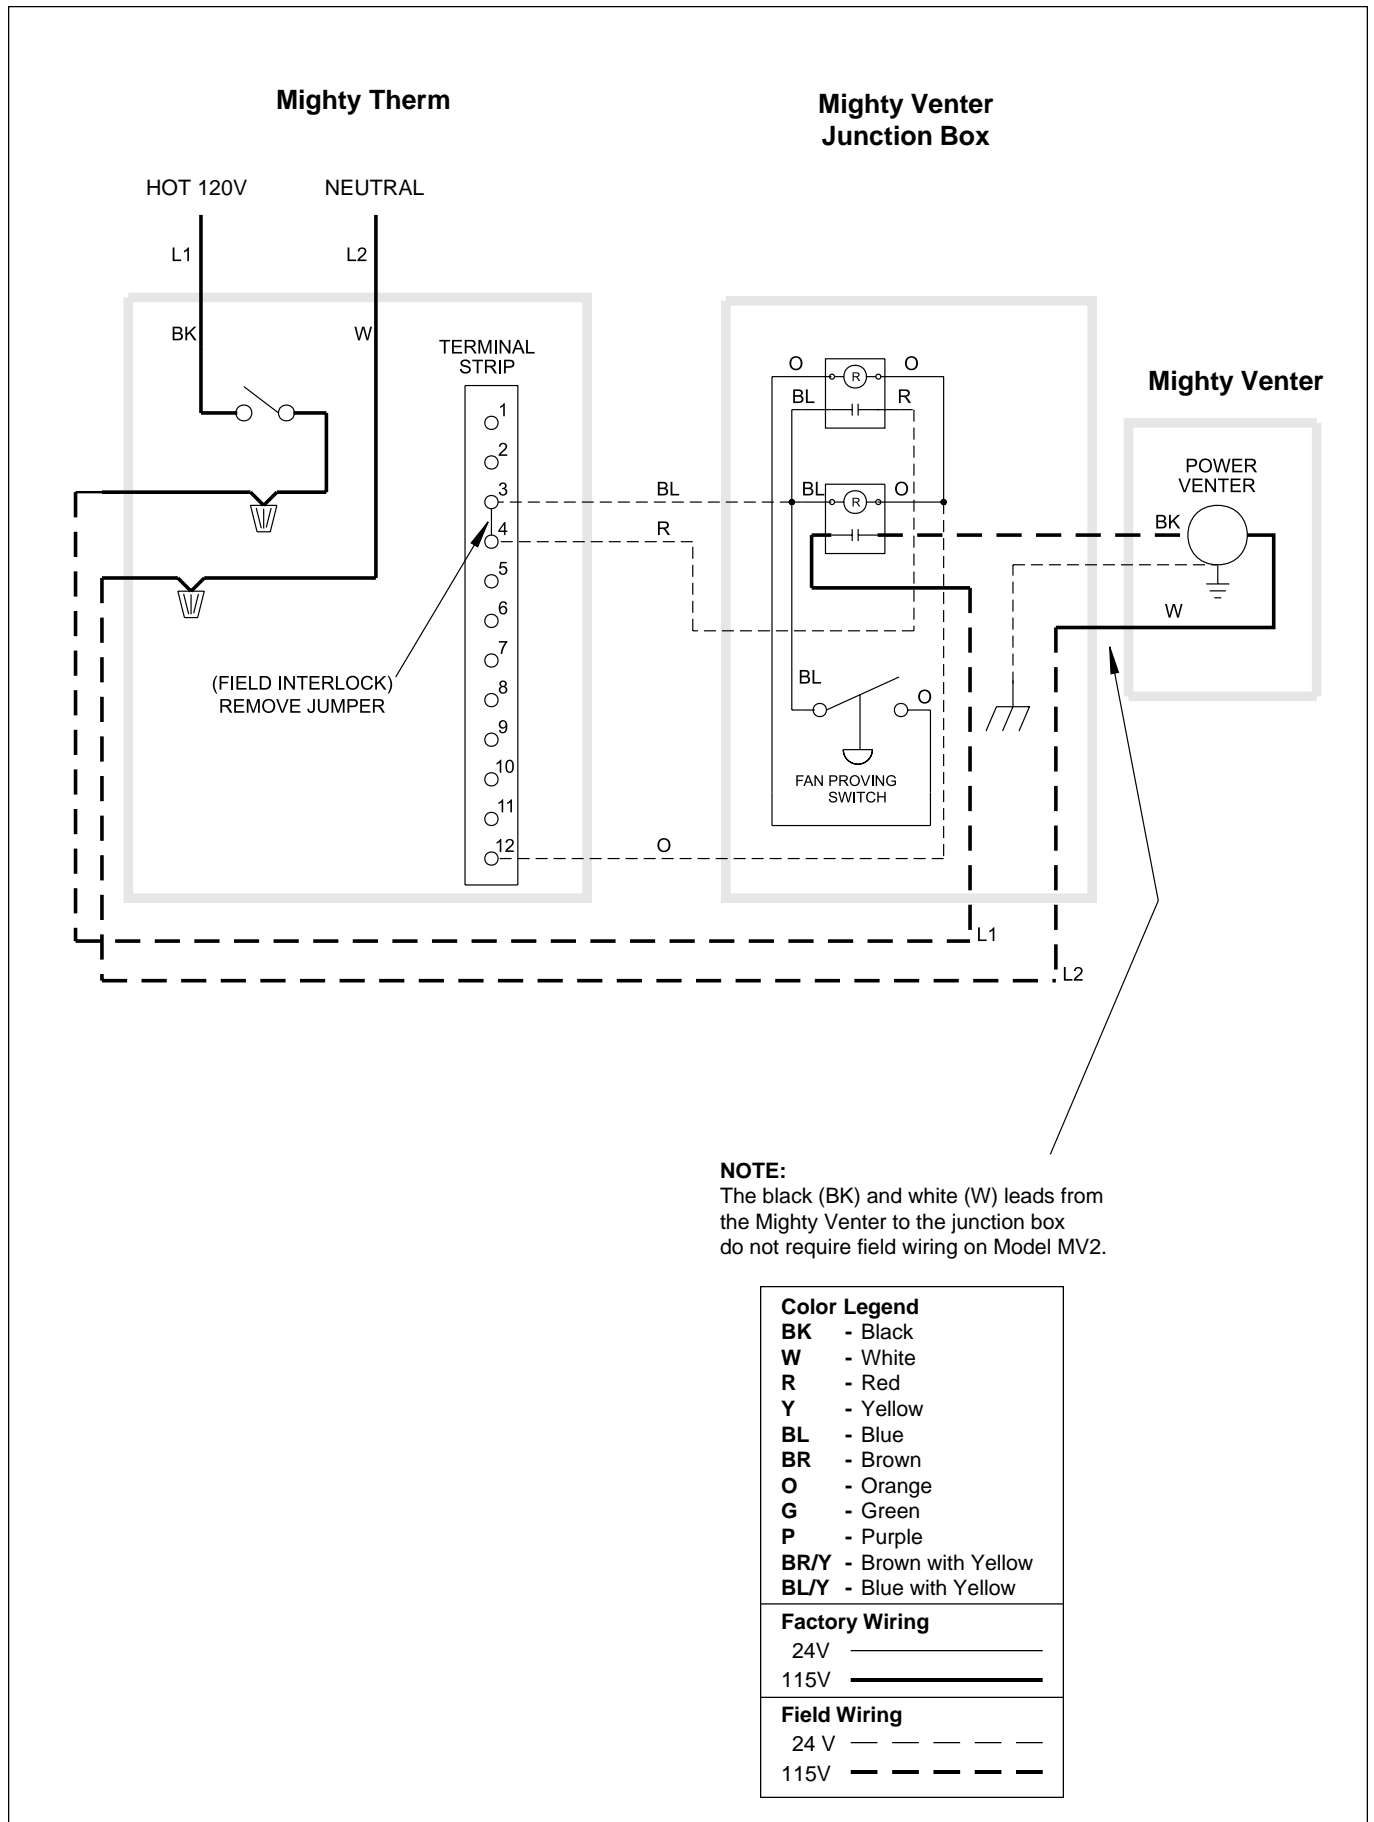

Figure 5. Mighty Therm System 9, 11 or 16, Models 500-1825, wiring with Mighty Venter.
- a) Connect the black and white (120 VAC) leads from the Mighty Venter to the boiler control box. Connect these leads with wire nuts to the boiler circuit as shown in Figure 5. **NOTE:** If correctly wired (as shown in Figure 5), the power to the Mighty Venter will be disconnected if the boiler toggle switch is turned off.
- b) Connect the red, blue and orange (24 VAC) wires to the terminal blocks as shown in Figure 5.